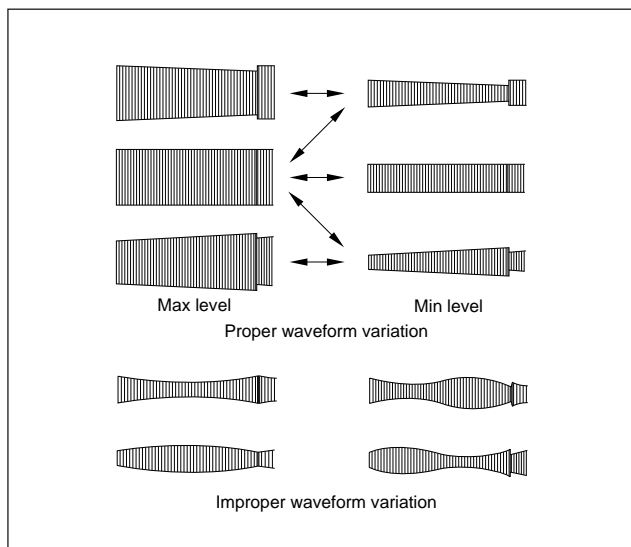

Fig. 2-3-1a
- (1) Play back the alignment tape (A1).
- (2) Apply the external trigger signal to D.FF (E), to observe the V.PB FM waveform at the measuring point (D).
- (3) Set the VCR to the manual tracking mode.
- (4) Make sure that there is no significant level drop of the V.PB FM waveform caused by the tracking operation, with its generally parallel and linear variation ensured. Perform the following adjustments when required. (See Fig. 2-3-1a.)